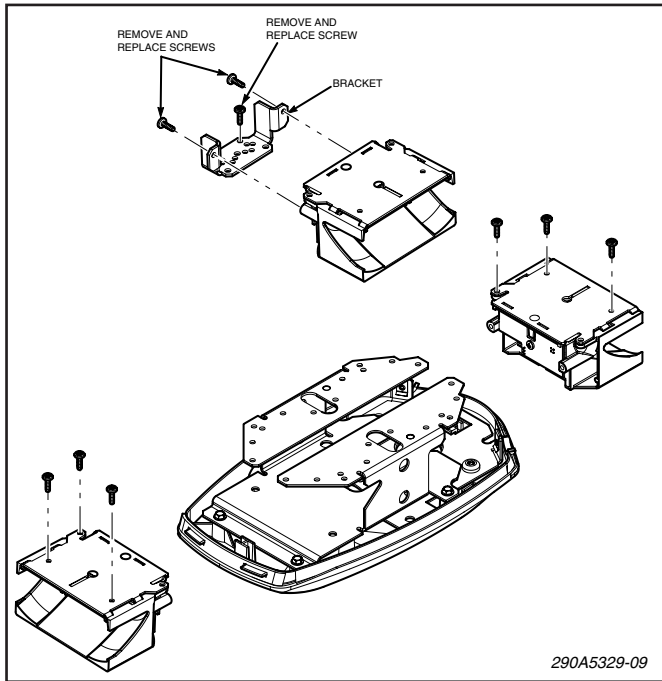

Figure 9.
- b. See figure 9. Note or mark the screw location to ensure reassembly in the proper position. Remove the Phillips screws retaining the reflector assembly, slide the assembly free, and unplug the electrical connector.